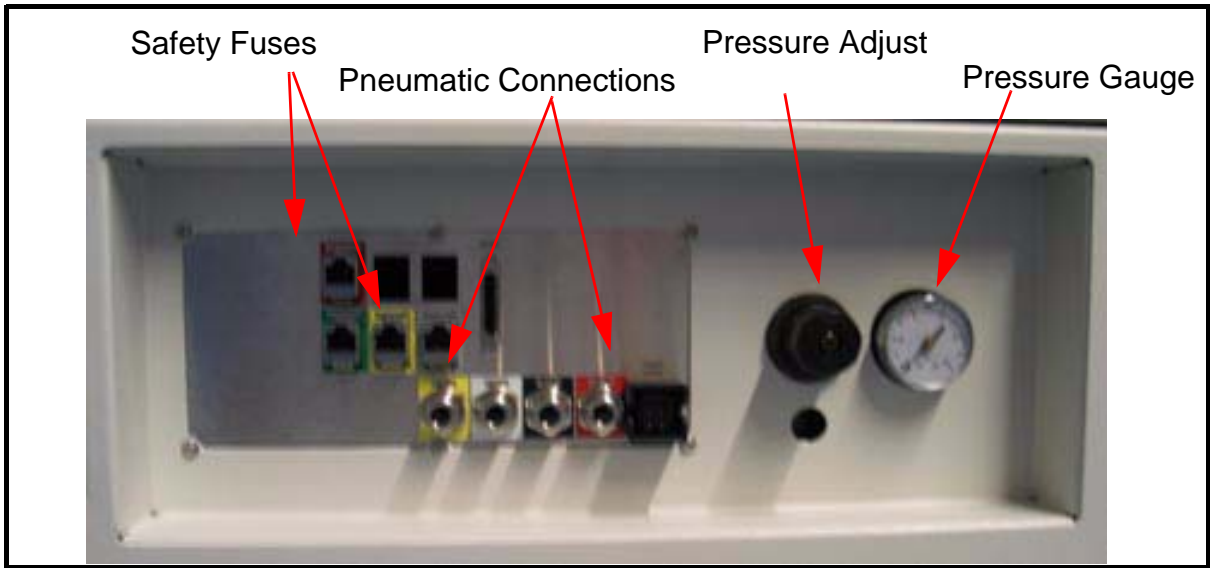

Figure 2.1. Rear View of Base of Cabinet.
Shielding of sensitive components such as the receiver from interference arising from electromagnetic radiation from external sources is maximized when all the units are housed within a metal cabinet. The reader should note that they are advised to keep the cabinet doors shut to maximize this shielding. Ventilation fans mounted at the rear of the cabinet cool the various units. As well as providing important electrical internal wiring (via an internal wiring harness) the cabinet is designed to provide the spectrometer pneumatic and mains electrical power connections. With a cabinet arrangement it is easier to provide facilities such as electrical power and compressed air from a single supply. These connections can be seen in **Figure 2.1**.
- If a problem is encountered with the pneumatic driven functions such as lift and spin you should check that adequate pressure (see site planning guides for specific requirements) is available at the rear of the cabinet. The pressure gauge and adjustment knob are clearly visible in **Figure 2.1**.